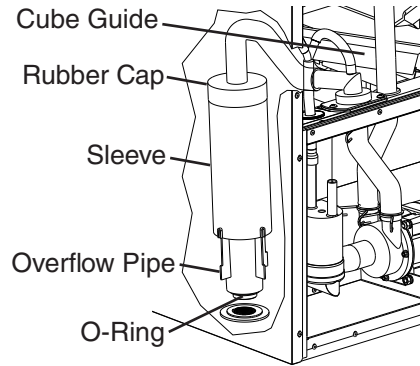

Fig. 17
- 14) Remove the rubber cap and sleeve covering the overflow pipe. See Fig. 17. Unscrew the overflow pipe.